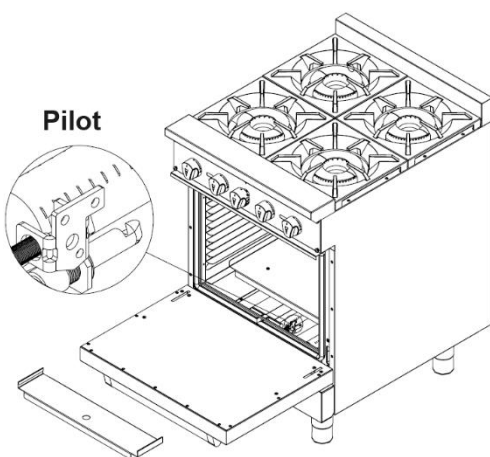

Fig. 4
6. Remove the interior floor of the oven to access the pilot. Unscrew the pilot from the support to facilitate changing the orifice. Perform this procedure with caution to avoid damaging the thermocouple or the pipe. (Fig.4)